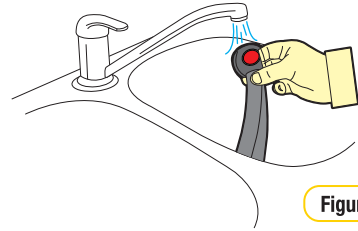

Figure 5
Step 6: Place the Buckle under warm (max. 40 degrees Celsius) running water as shown below. Let the water run through the mouth of the buckle for five minutes. Do not immerse the harness in water (refer Figure 5).